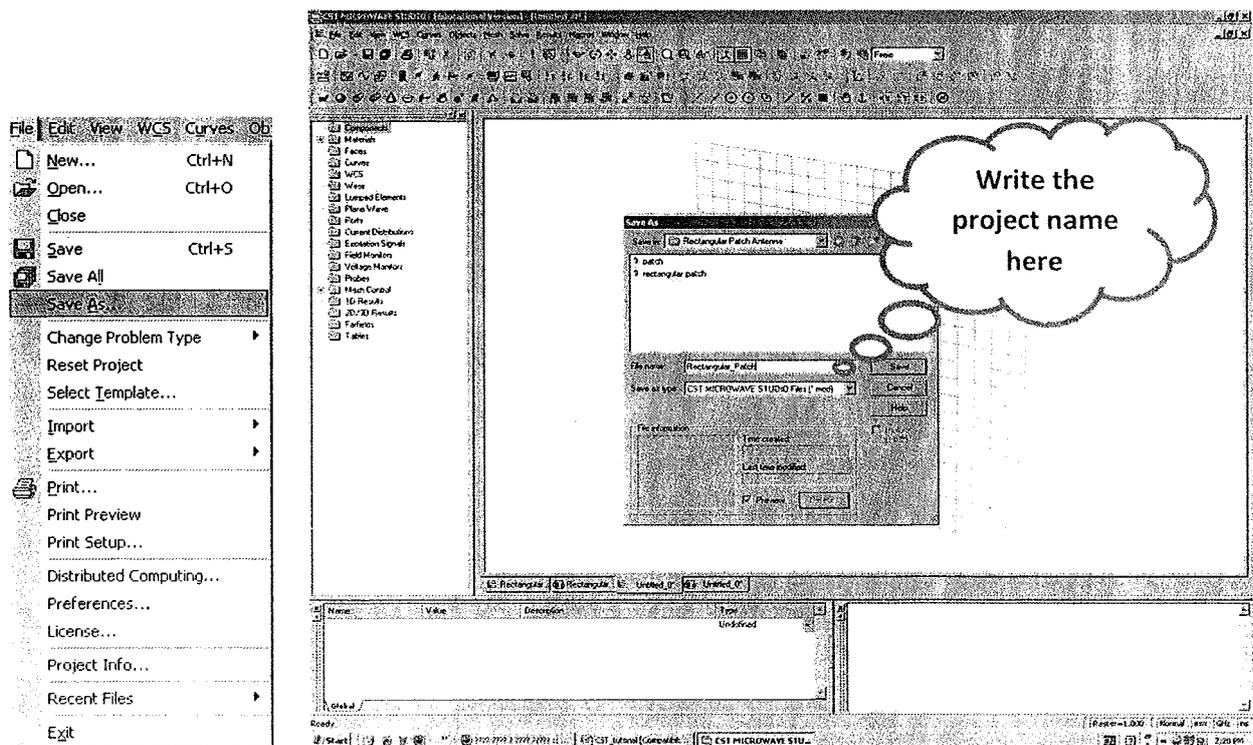

Fig. 4 Saving the working project
- f. From Main Menu select > File > Save as, now you should write the name of your project in the specified area e.g. "Rectangular Patch" as shown in Fig. 4